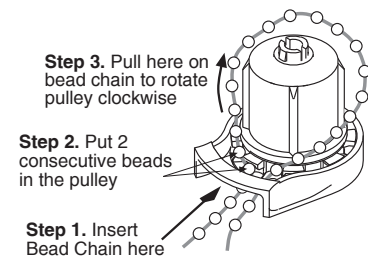

Fig. 4 Insert Bead Chain
Step 3. Insert bead chain into the clutch as shown in Fig. 4.